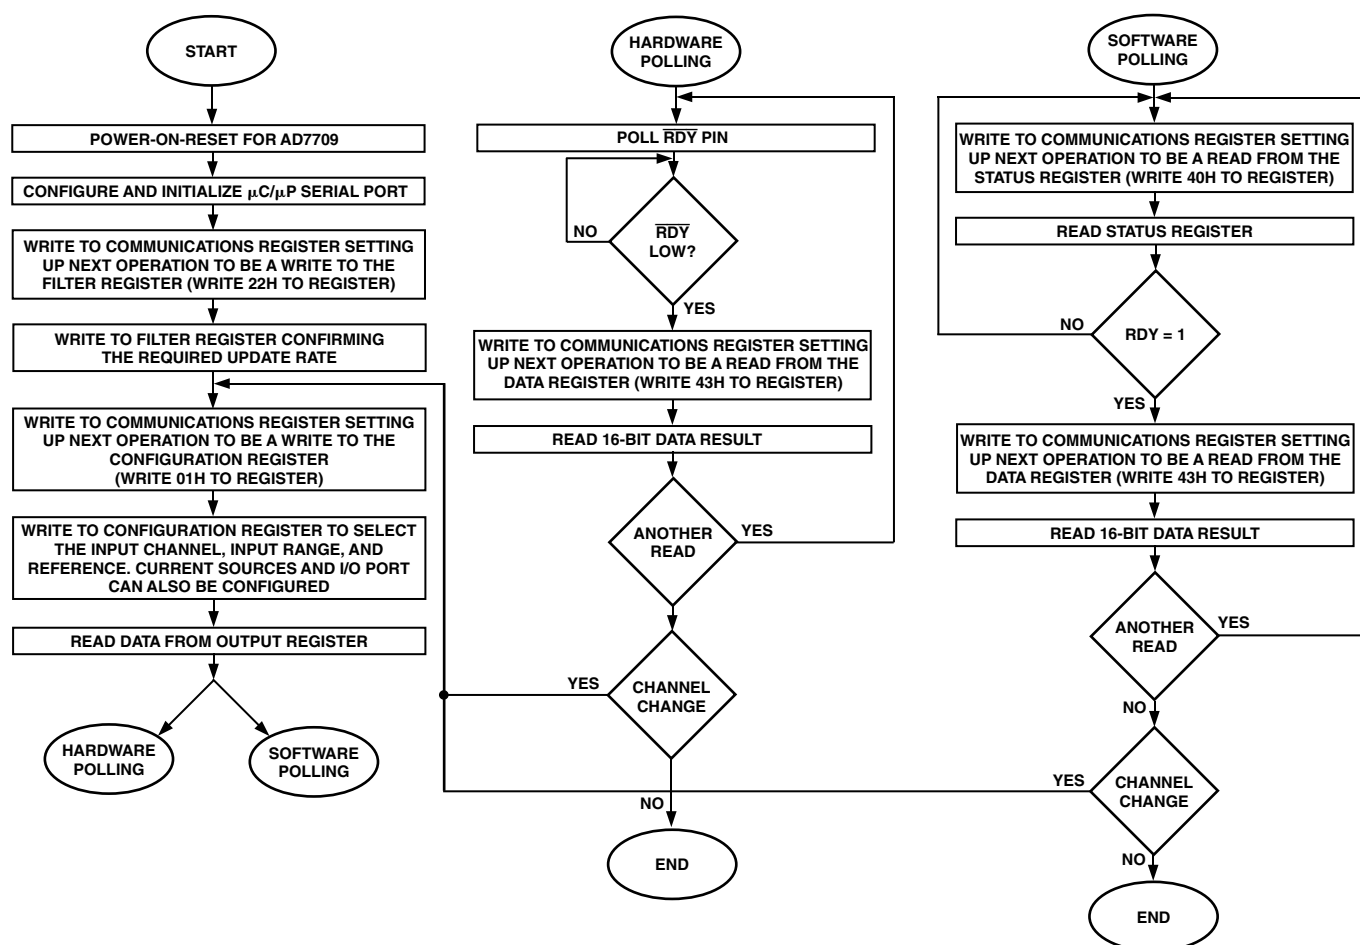
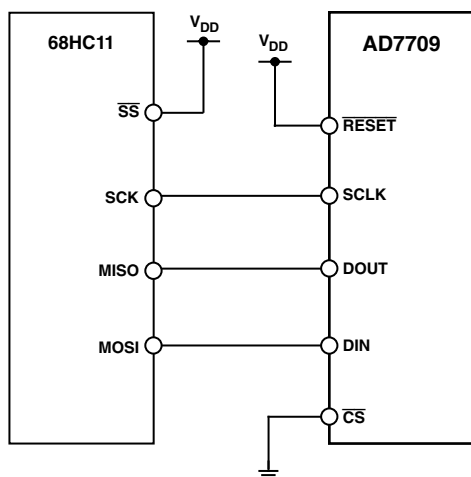

Figure 10. Flowchart for Initializing and Reading Data from the AD7709
Figure 11. AD7709-to-68HC11 Interface
Figure 10 outlines a flow diagram of the sequence used to configure all registers after a power-up or reset on the AD7709. The flowchart shows two methods of determining when it is valid to read the data register. The first method is hardware polling of the $\overline{\text{RDY}}$ pin and the second method involves software interrogation of the RDY bit in the status register. The flowchart details all the necessary programming steps required to initialize the ADC and read data from the ADC channel following a power-on or reset. The steps can be broken down as follows:
3. When configuration is complete, the user needs to determine when it is valid to read the data from the data register. This is accomplished either by polling the $\overline{\text{RDY}}$ pin (hardware polling) or by interrogating the RDY bit in the STATUS register (software polling). Both are shown in Figure 10.
The AD7709 flexible serial interface allows for easy interface to most microcomputers and microprocessors. The flowchart of Figure 10 outlines the sequence that should be followed when interfacing a microcontroller or microprocessor to the AD7709. Figures 11, 12, and 13 show some typical interface circuits. The serial interface on the AD7709 is capable of operating from just three wires and is compatible with SPI interface protocols. The 3-wire operation makes the part ideal for isolated systems where minimizing the number of interface lines minimizes the number of opto-isolators required in the system. The serial clock input is a Schmitt-triggered input to accommodate slow edges from opto-couplers. The rise and fall times of other digital inputs to the AD7709 should be no longer than 1 μ s.
Figure 11 shows an interface between the AD7709 and the 68HC11 microcontroller. The diagram shows the minimum (3-wire) interface with \overline{CS} on the AD7709 hardwired low. In this scheme, the RDY bit of the Status Register is monitored to determine when the Data Register is updated. An alternative scheme, which increases the number of interface lines to four, is to monitor the \overline{RDY} output line from the AD7709. The monitoring of the \overline{RDY} line can be done in two ways. First, \overline{RDY} can be connected to one of the 68HC11 port bits (such as PC0), which is configured as an input. This port bit is then polled to determine the status of \overline{RDY} . The second scheme is to use an interrupt driven system, in which case the \overline{RDY} output is connected to the IRQ input of the 68HC11. For interfaces that require control of the \overline{CS} input on the AD7709, one of the port bits of the 68HC11 (such as PC1), which is configured as an output, can be used to drive the \overline{CS} input.